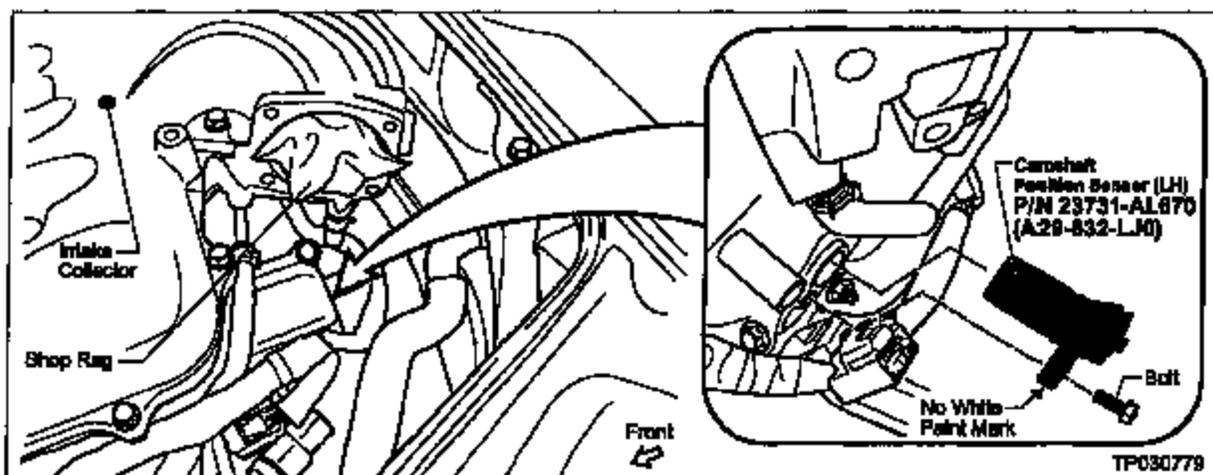

Figure 6
CAUTION: Avoid engine damage; place a shop rag in the opening of the Intake collector (see Figure 6, next page).
5. Locate the driver's side (LH) Camshaft Position Sensor (see Figure 6).